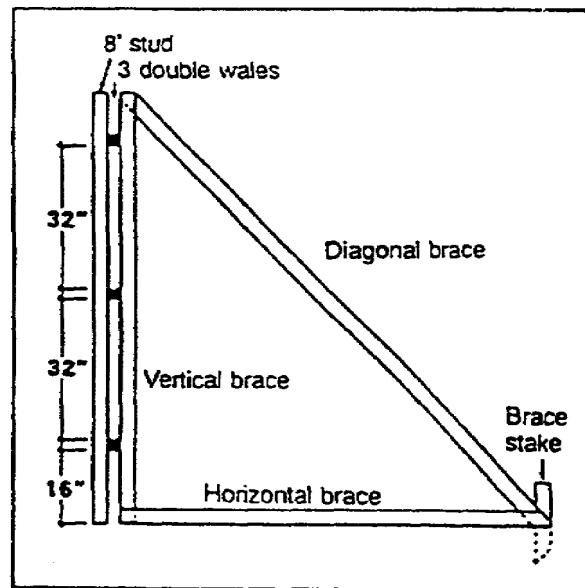

Figure 1-2. Double wales on a 8-foot wall form
- You must place the first wale one-half the maximum wale spacing up from the bottom. The remaining wales are placed at the maximum wale spacings that you previously determined (see Figure 1-2).